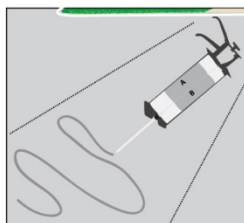
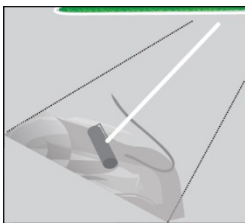

Figure 7: Apply sealer to specific area
Figure 8: Roll sealer only in specified area
5. The amount of sealer in a 300/600 ml cartridge will be sufficient for applying 45 sq. ft. of TrafficPatterns®. **Note: It is critical that the sealer does not cure up before the TrafficPatterns® material has been applied and heated; therefore do not apply sealer to an area larger than what can be heated in 20 minutes.** Holding the tip of the nozzle above the application area, squeeze out an appropriate amount of sealer. *See Figure 7.* Using the roller provided spread out the applied sealer over the selected application area. *See Figure 8.* Do not apply sealer outside the chalk line. The sealer should appear as a light coat of paint, leaving a shiny surface. **Do not wait for the sealer to cure up before applying the TrafficPatterns® material.**